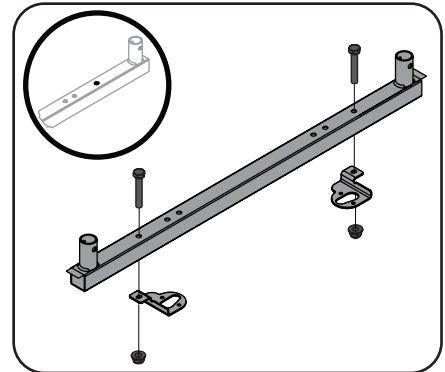

Figure 3-10
3. Assemble Support (683-05347) and Mounting Brackets (789-00399, 789-00400) by using 2 Hex Head Capscrews (710-3180) and 2 nuts (712-04063) as shown in Figure 3-10.